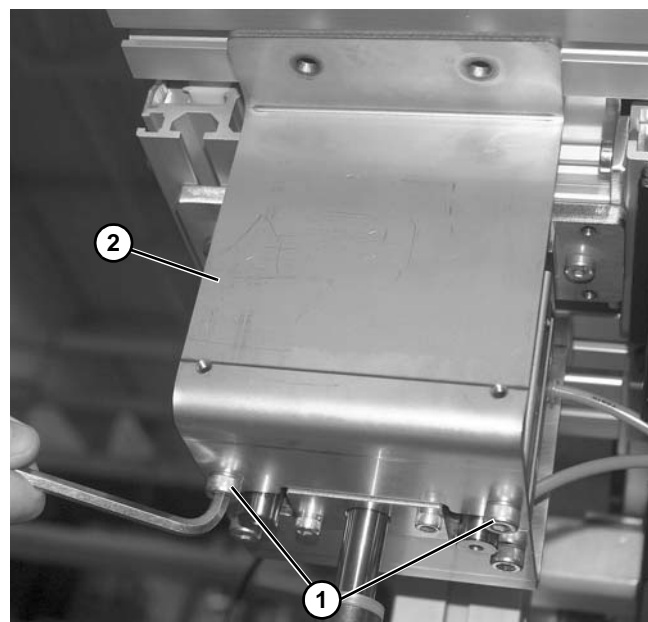

Figure 35
4. Remove two lower screws (Figure 35, item 1) securing bracket (Figure 35, item 2) onto lift cylinder.